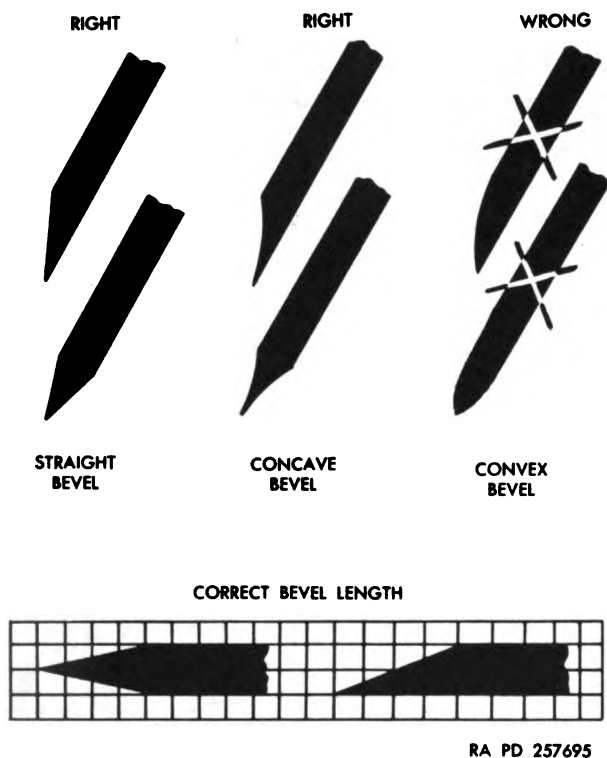

Figure 225. Drawknife bevel length and shape.
- (3) The drawknife may be ground with a single or double bevel. The bevel must be restored to its original shape. Determine the original shape of the bevel by examining the unworn portions at the ends of the cutting edge. If the bevel cannot be determined by examination, make the bevel length approximately twice the thickness of the blade at the point where the bevel starts. Correct bevel length and shape for drawknives are shown in figure 225. The bevel must never be ground convex.